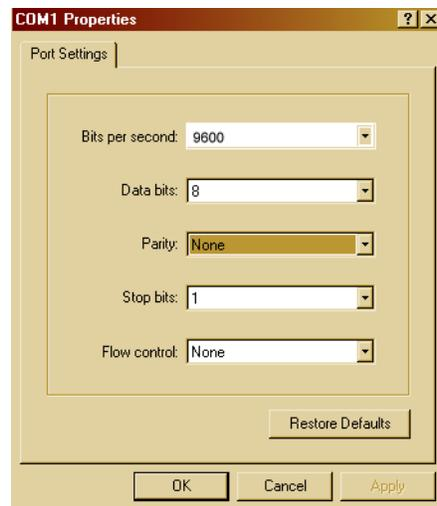

Figure 9. COM1 Properties window
6. Configure your COM port settings as shown in figure 9, then click **OK**.